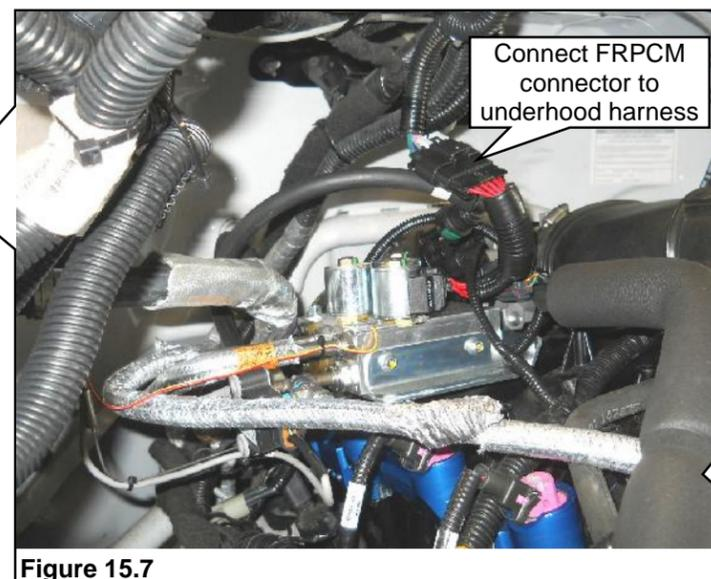

Figure 15.7
16. Make the CAN bus harness and the FRPCM harness breakout connections to the underhood harness. **Figure 15.7 and 15.8.**